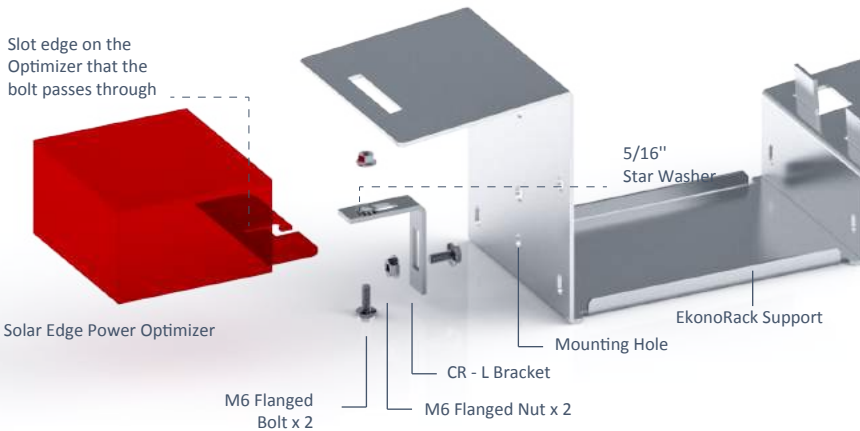

Figure 2 - Configuration B Schematic
1. Refer to Figure 2 for setup.